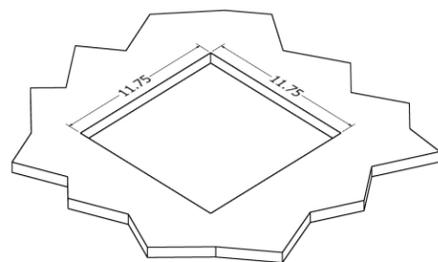

Figure 1 - Cutout Dimensions
**Step 1** - When cutting the hole for the 1043 enclosure in the drywall allow for an 11.75" x 11.75" opening for clearance when the drywall is installed over the enclosure (Figure 1).